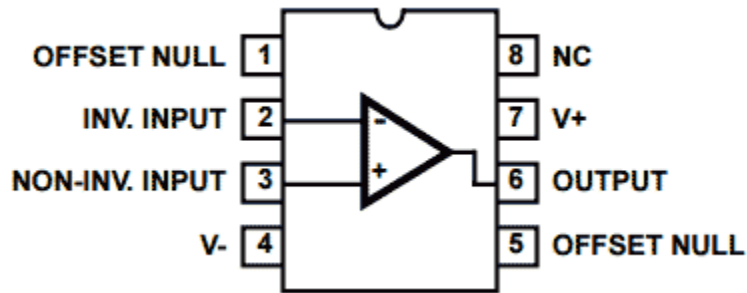

Figure 2-2 LM741 pins layout
1. Study the LM741 chip layout of Figure 2-2 (look for datasheet). Describe each pin and their function if any.